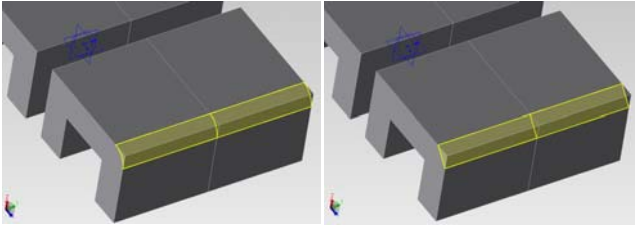

Fig.14 Fillet feature (left) • Chamfer feature (right)
- A translucent preview of the edge or face to fillet / chamfer appears in the work plane based on the settings that are specified (Fig.14).